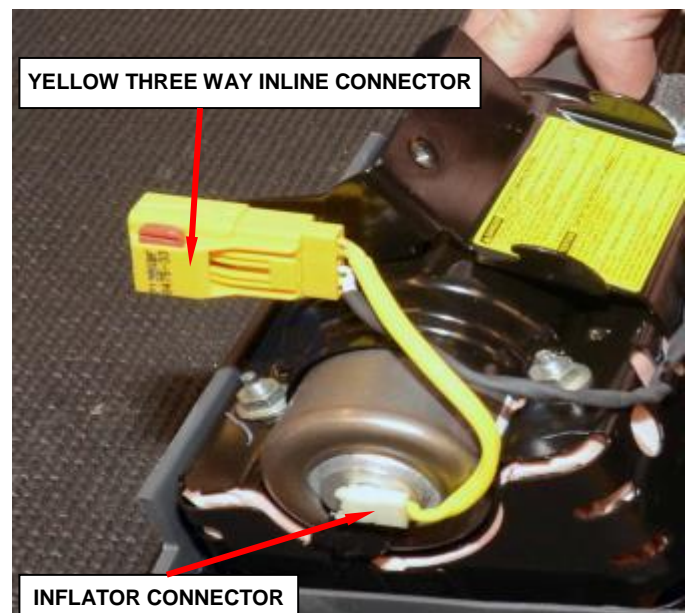

Figure 93 – Inflator Connectors
- c. Disconnect the single yellow wire inflator connector from the end of the inflator using pliers (Figure 93).
- d. Remove the yellow three way inline connector from the housing bracket (Figure 93).
- j. Install the yellow three way inline connector to the housing bracket (Figure 93).
- k. Connect the single yellow wire inflator connector to the end of the inflator after removing the protective tape from the end of the inflator (Figure 93).